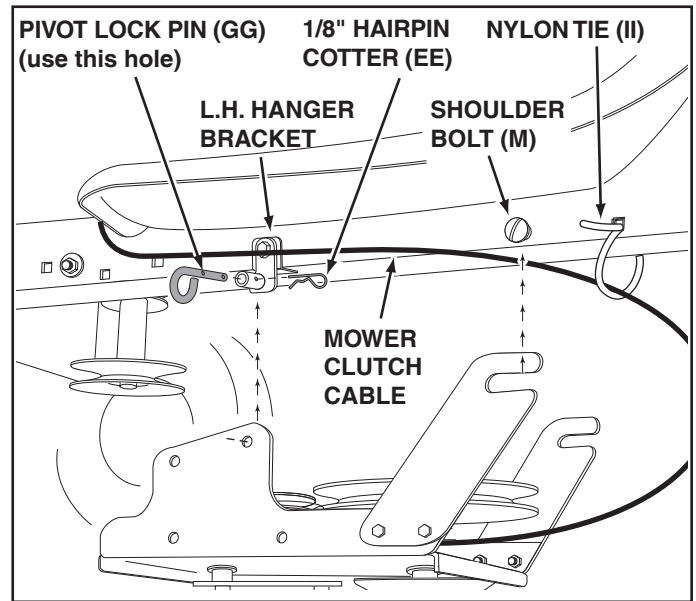

FIGURE 12
STEP 12: (SEE FIGURE 12)
- Attach the clutch/idler assembly to the tractor frame. Hook the notched suspension arms onto the two shoulder bolts (M) assembled to the outside of the tractor frame. Lift the front of the assembly and attach it to the R.H. and L.H. hanger brackets using two pivot lock pins (GG) and 1/8" hairpin cotters (EE).
- Loosely attach the mower clutch cable to the left side of the tractor frame with a nylon tie (II). **Do not pull** the nylon tie completely tight. The cable may need to be removed from the nylon tie when using the mower deck.